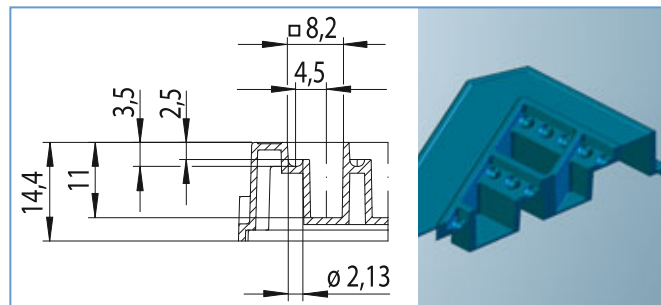
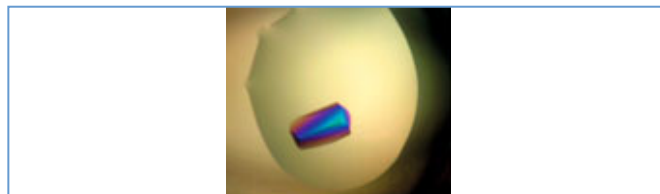

Figure 3: Well profile, CrystalQuick™ RW
Figure 4: Protein crystal in CrystalQuick™ RW, the image was kindly supplied by B. Blattmann, NCCR Structural Biology, Switzerland
Figure 3: CrystalQuick™ plates in polarised light: (a) Standard versions with strong birefringence, (b) LBR versions with lower birefringence. (1) CrystalQuick™ RW (2) CrystalQuick™ SW (3) CrystalQuick™ LP
CrystalQuick™ RW (Round Wells Fig. 3, Fig. 4)